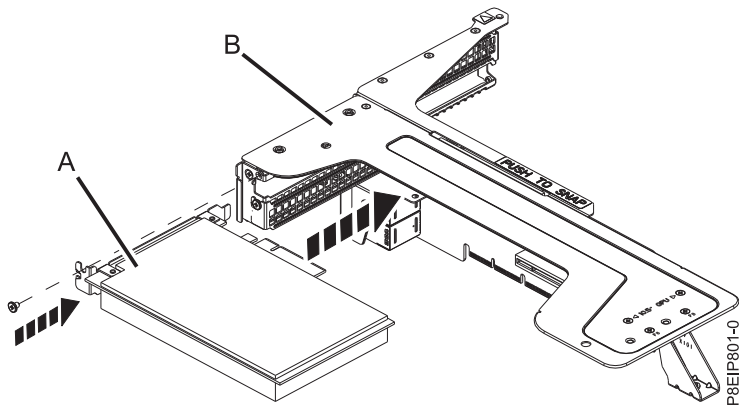

Figure 48. Inserting an adapter into position 3 of the PCIe riser
- f. Insert the PCIe adapter **(A)** that is located in position 3 into the PCIe adapter riser **(B)** as shown in Figure 48 on page 81.